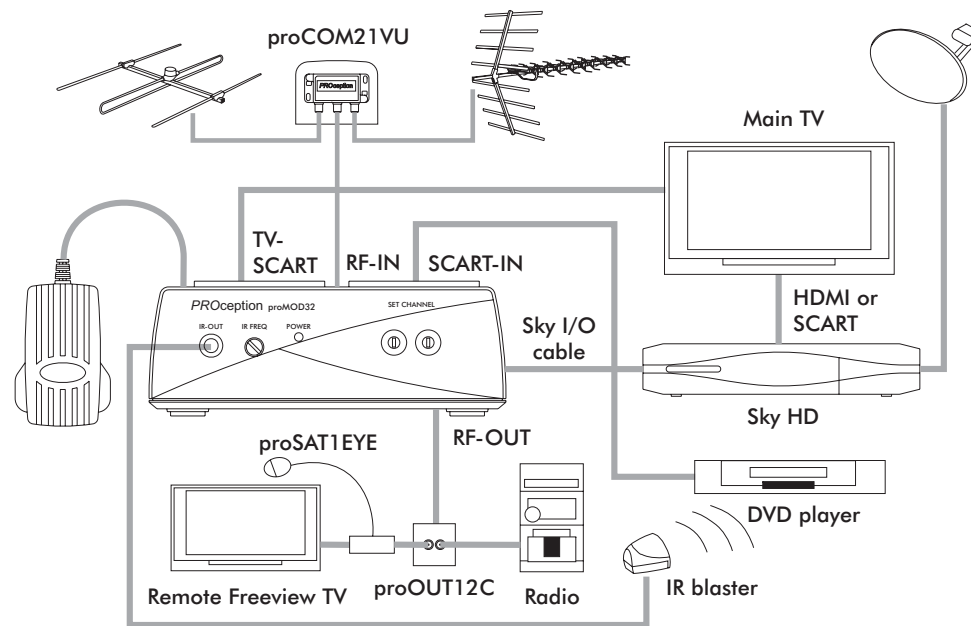

Fig. 6 – Sky application with DVD and VHF radio.
- Fig. 6 shows the use of both AV inputs, SCART-IN being fed from an older type of DVD player with SCART output. It also shows how a diplexed VHF & UHF aerial feed can be passed through the modulator to provide a radio feed in the remote room.